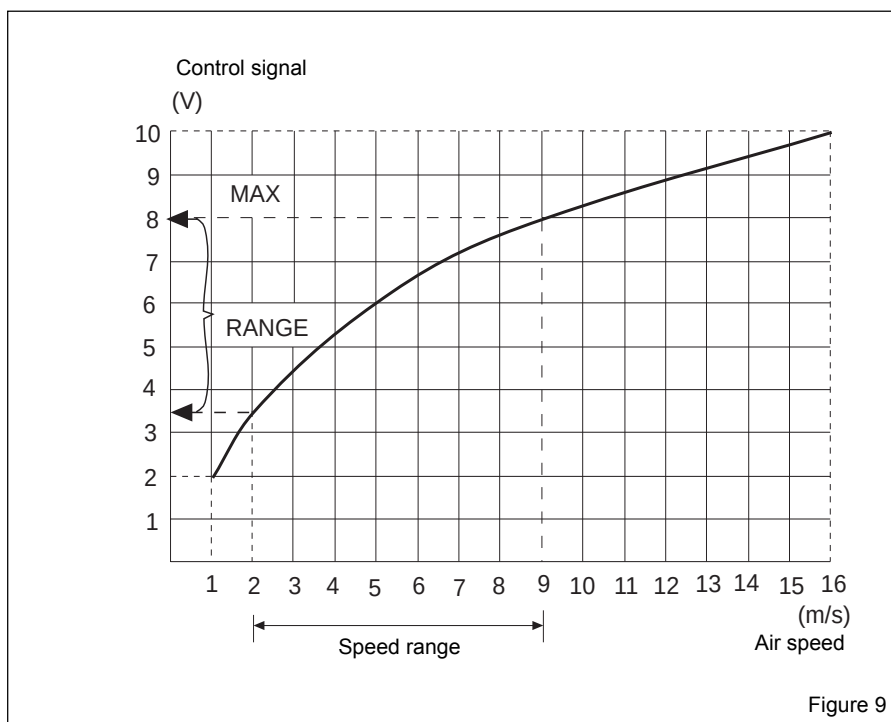

Figure 9
The control voltage range of the controller, i.e. maximum and minimum air speed, is adjusted with the MAX and RANGE potentiometers. The air speed corresponds to a 2–10 V voltage, see the curve in figure 9.
1. Read the value of the control voltage in the diagram in figure 9, e.g. 9 m/s=8 V.
1. Read the value of the control voltage in the diagram in figure 9, e.g. 2 m/s=3,5 V.